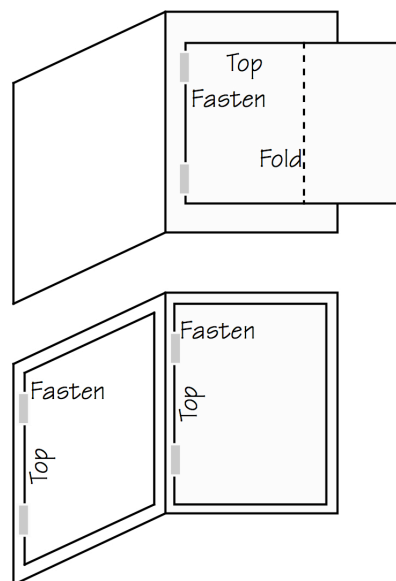

Fig. 1—Fastening papers in lab log
- Many of your graphs can be drawn in the journal. Each graph should have a title, labeled axes, and appropriate units. If a different grid is needed (semi-log, for example) or a graph has to be saved for another experiment, use good-quality graph paper. Permanently attach this graph to the notebook as shown in Fig. 1. Do not leave loose pages in your journal.
- All work should read from the bottom of the notebook if possible. If you need to turn something sideways, *always* read from the *right* side of the book. (See Fig. 1.)